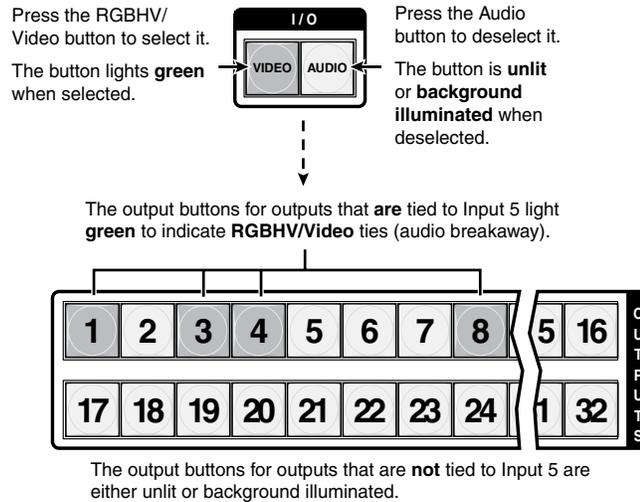

Figure 3-27 — Deselect audio and select RGBHV/video to view video ties only
- Press and release the RGBHV (CrossPoint switchers) or Video (MAV Plus switchers) button and the Audio button to toggle the Video button on green and the Audio button either unlit or providing background illumination (figure 3-27).